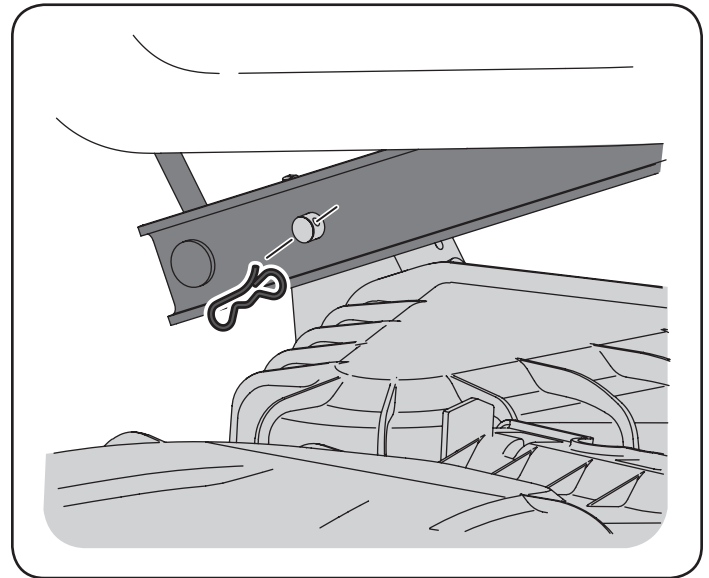

Figure 29
4. Looking at the cutting deck from the right side of the tractor, locate the bow-tie pin on the rear right side of the deck. See Figure 29.
5. Remove the bow pin and slide the deck pin out of the deck lift arm. See Figure 29.